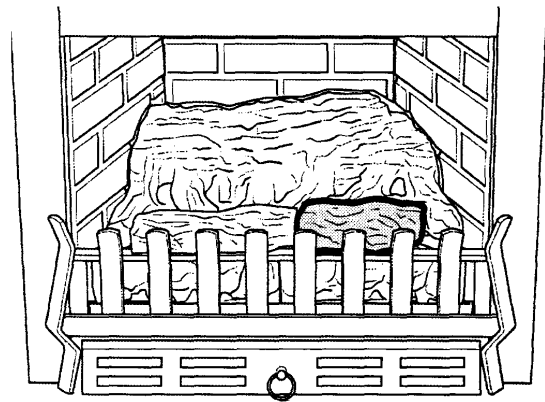

Figure 12 "B" log position
- Now take the smaller 'B' log and position in the same manner as shown in figure 12.